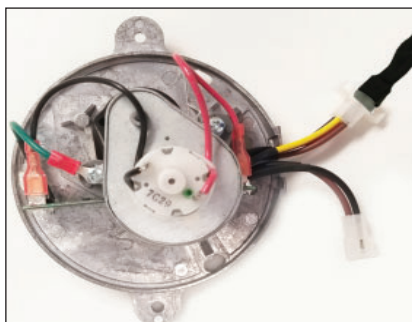

Figure 5
**Note:** The controller's circuit board includes battery connector on 4-pin control, as well as provides a battery plug for original installation method, See Figure 5. Unless it is desired to have the battery installed within the FSM atop the chimney, leave the battery connector unused. If the battery is to be installed in the fireplace area, the battery will not be connected to the circuit board inside the FSM. If the battery is to be installed in the FSM, follow the steps given in the procedure for FSM Battery Location Installation.